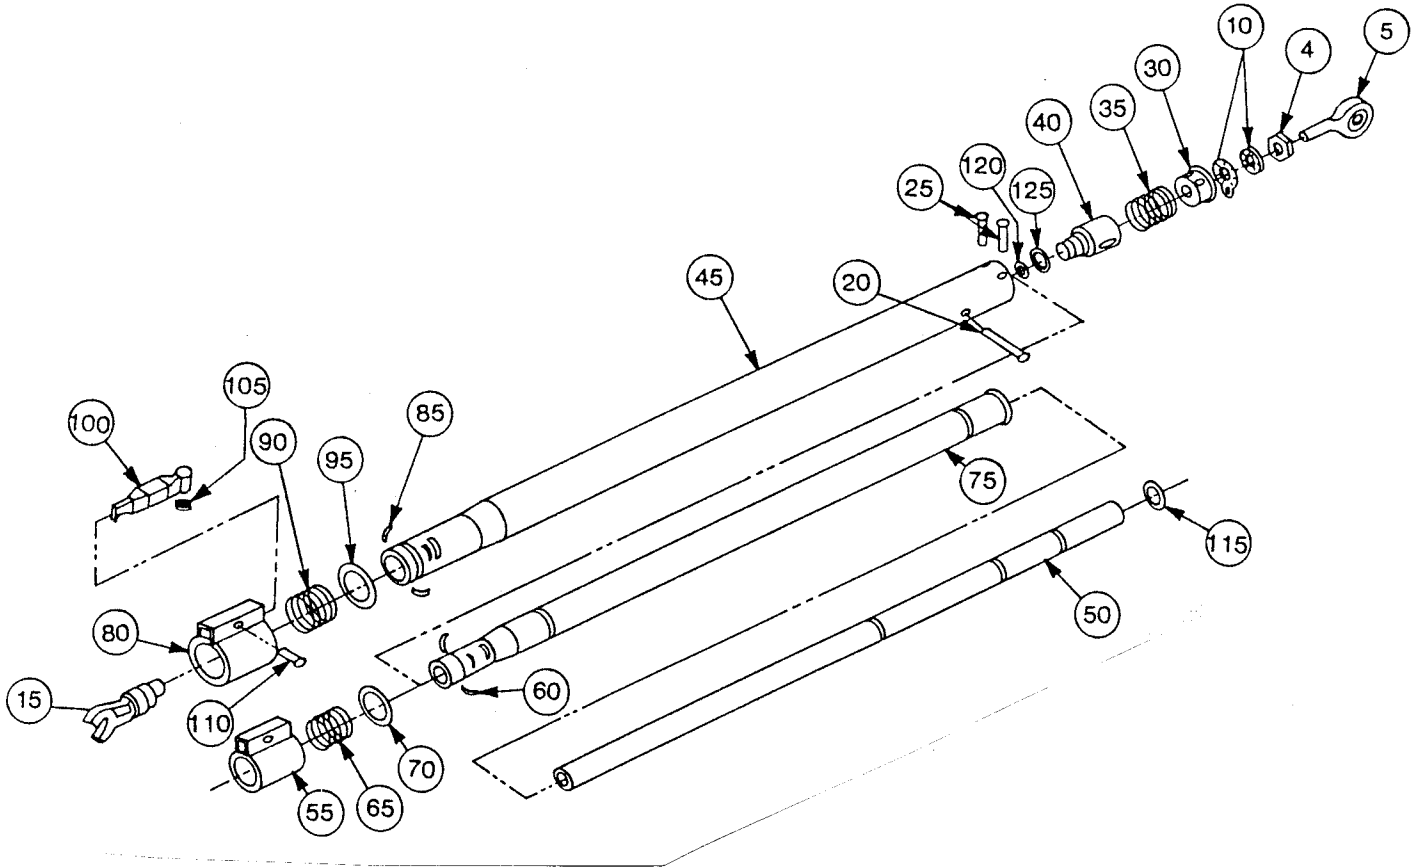

FIGURE 1 - A2764-3 STRUT ASSEMBLY
### A. Disassembly (See Figure 1)
(4)	Nut
(5)	Rod End Bearing
(10)	Locking Device
B. Assembly (See Figure 1)
- (1) Replace outer tube (45) with new outer tube, part number AM2764-16-2.
- (2) Two dowels or metal rods are required for use as assembly tools. These should be 4.5 inches (114.3 mm) long and the following diameter:
Item numbers, in parenthesis correspond to those shown in Figure 1.